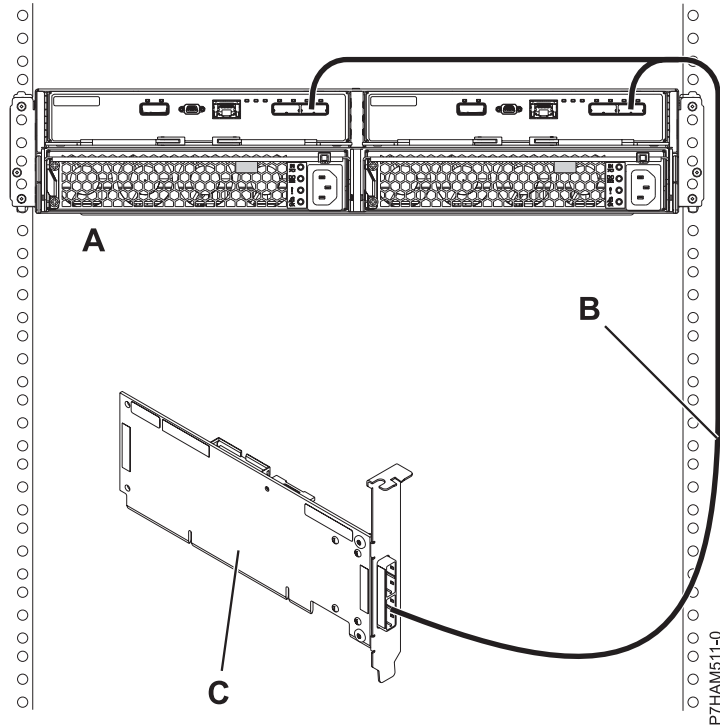

Figure 35. Mode 1 connection of one 58/87 disk drive enclosure by using a YO cable to a single SAS adapter
9. Perform the mode 1 connection of one 58/87 disk drive enclosure (A) by using a YO cable (B) to a single SAS adapter (C) as shown in Figure 35 on page 67.
- The single SAS adapter (C) has access to all 24 drive bays.